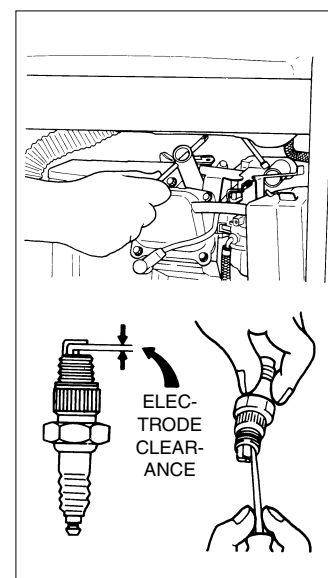

Fig. 29
5. Measure the plug gap with the feeler gauge. Correct as necessary by carefully bending the side electrode (Fig.29).